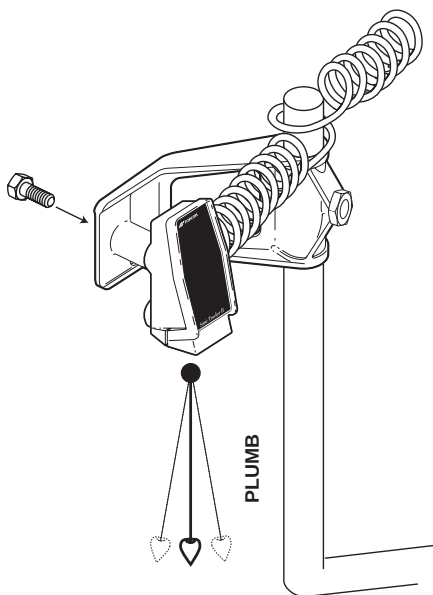

Figure 9-2. Bolt Tracker to Bracket
2. Bolt the Tracker to the bracket, and visually check to get the L-Bar and Tracker plumb (Figure 9-2).
3. Make one wrap of the coil cord around the L-Bar (Figure 9-2). This will act as a strain relief for the connector on the Tracker.